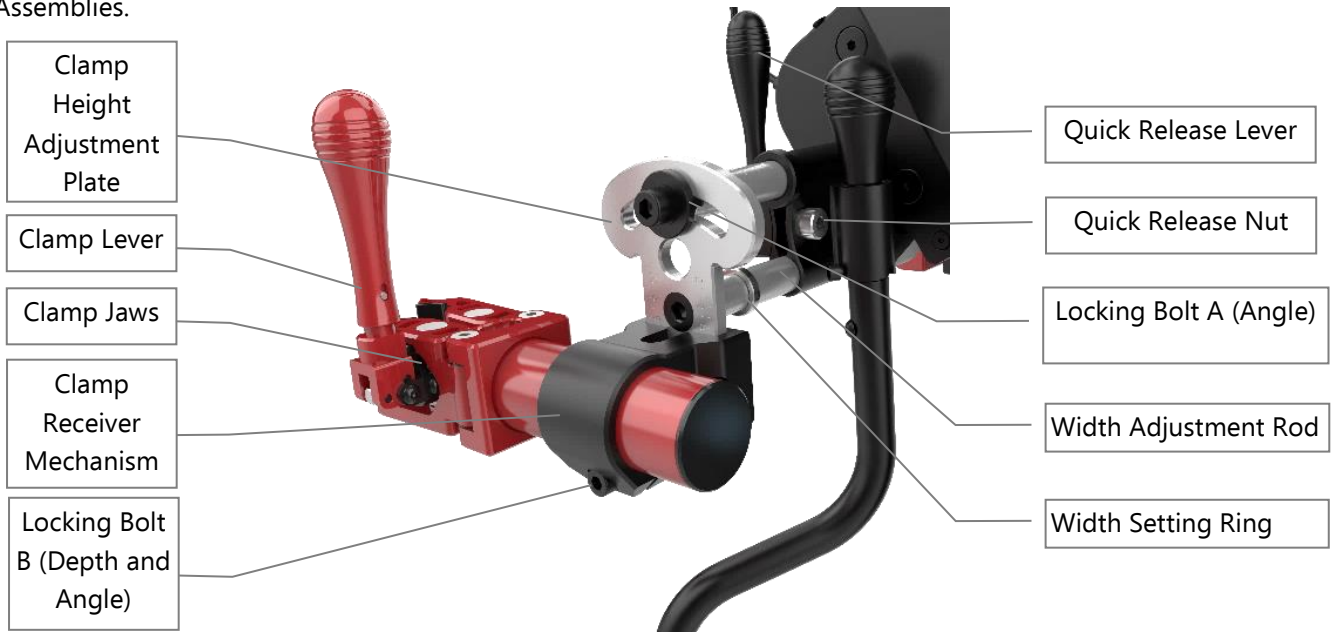

Figure 12. Manual Clamp and Width Adjustment Assemblies
- Adjust the width of the Clamp Jaws to the chair frame front tubes by pulling down the QR Levers to allow the Clamp Mechanism Receiver to slide in and out of its housing. See Fig 12 above.
⚠ Attention! The tension on this lever can be adjusted by the nut on the other side of the lever. See Fig 12 above.